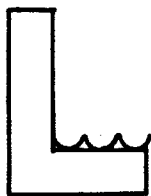

Fig. 6
9. File the long inside edge parallel to the outside. Fig. 6